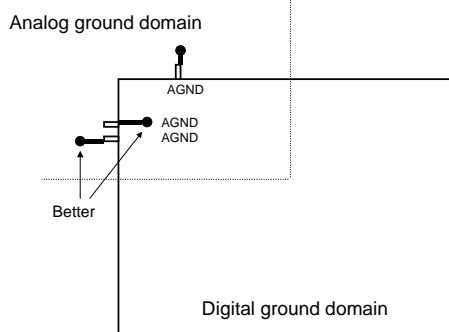
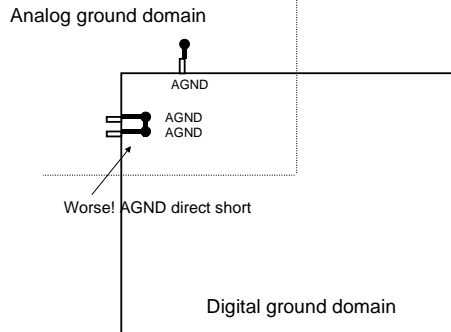

Figure 9-4-2
Figure 9-4-3
- All AGND pins (pin 100, 107, 108) could not directly short each other (see Figure 9-4-3). It must be directly connected to the analog ground domain (see Figure 9-4-2).